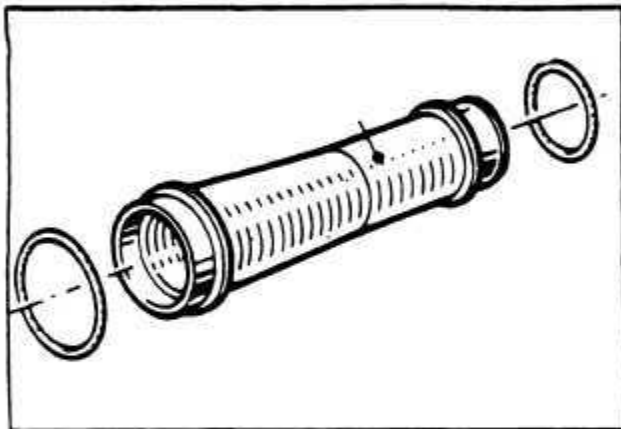

Fig. 70 CONVERTER SHAFT TUBE
6. Remove the pinion gear assembly, converter shaft tube and seal, planetary shaft bearing and preload adjustment shims, and the differential carrier assembly. *Fig. 70*